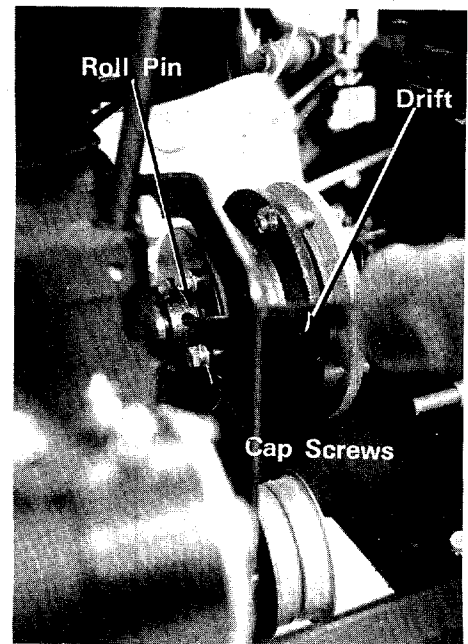

Figure 31
2. Drive out the roll pin with a drift and a hammer. (See figure 31.)